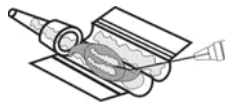

Fig.04
4. Applying a few drops of BS solution on the surface of the lens, as in Fig.04, will help to keep the lens in hydrated condition. Especially for the Hydrophilic IOL, this is helpful.